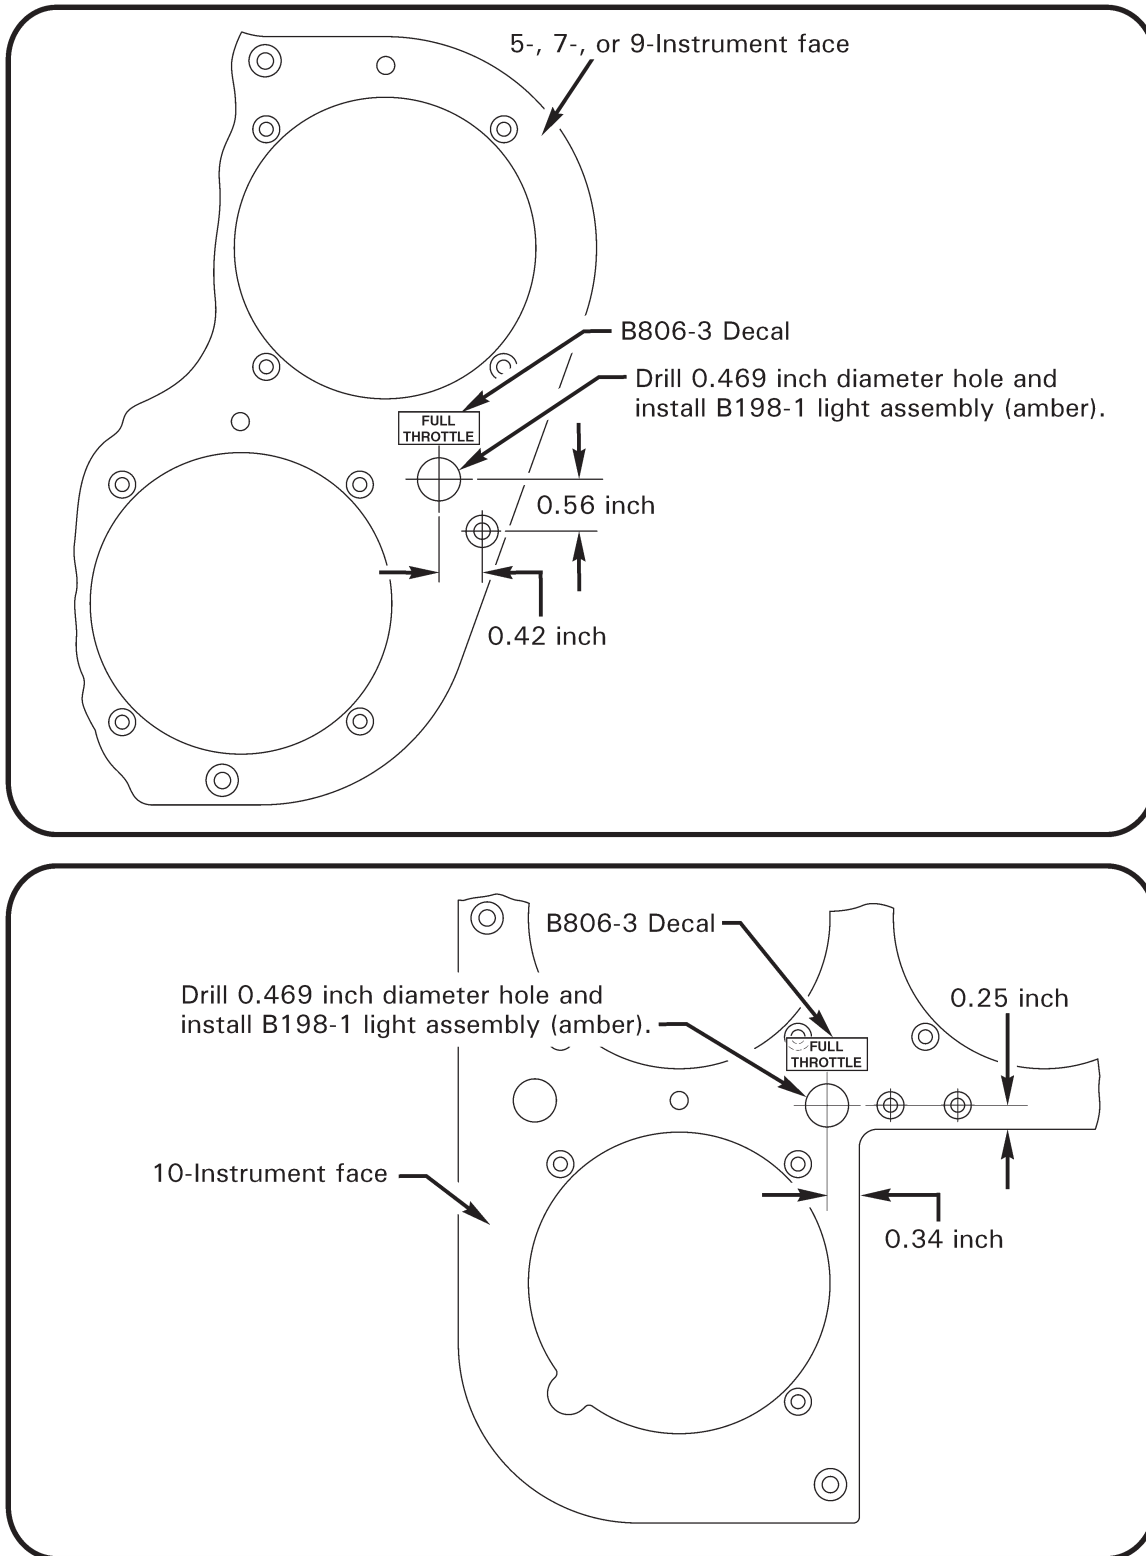

FIGURE 3
8. Refer to Figure 3. Lay out hole in face. Drill one 0.098-inch diameter pilot hole and enlarge to 0.469-inch diameter hole using a step-up drill bit. Remove drilling debris and deburr hole.
17. Refer to Figure 3. Install B806-3 decal as shown.